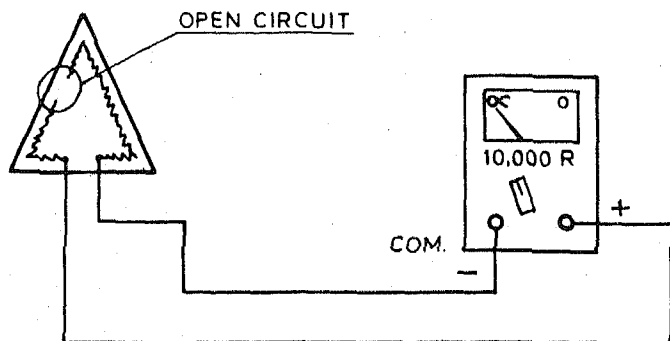

Fig. 14.1 The needle does not deflect at all. O.C. is present.
**Open Circuit Test:** Make the connection as shown in Fig. 14.1. as no current is able to flow due to break in the element, the resistance indicated is infinite. The needle remains at infinity.